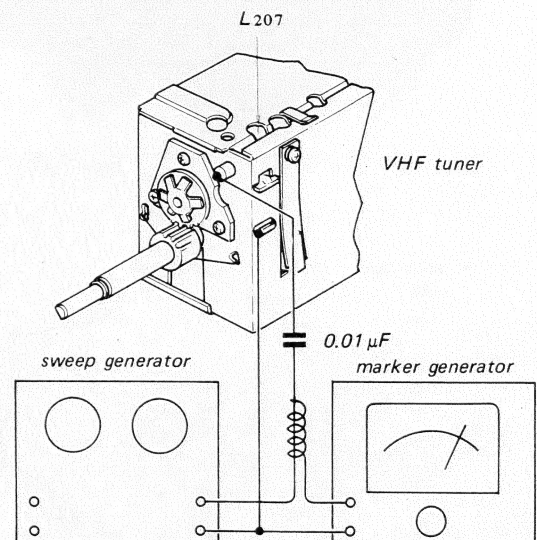

Fig. 3-2
2. Connect a sweep generator to the tuner's test point through a 0.01-μF capacitor as shown in Fig. 3-2.
7. Connect a sweep generator and a marker generator to the tuner's test point as shown in Fig. 3-2.